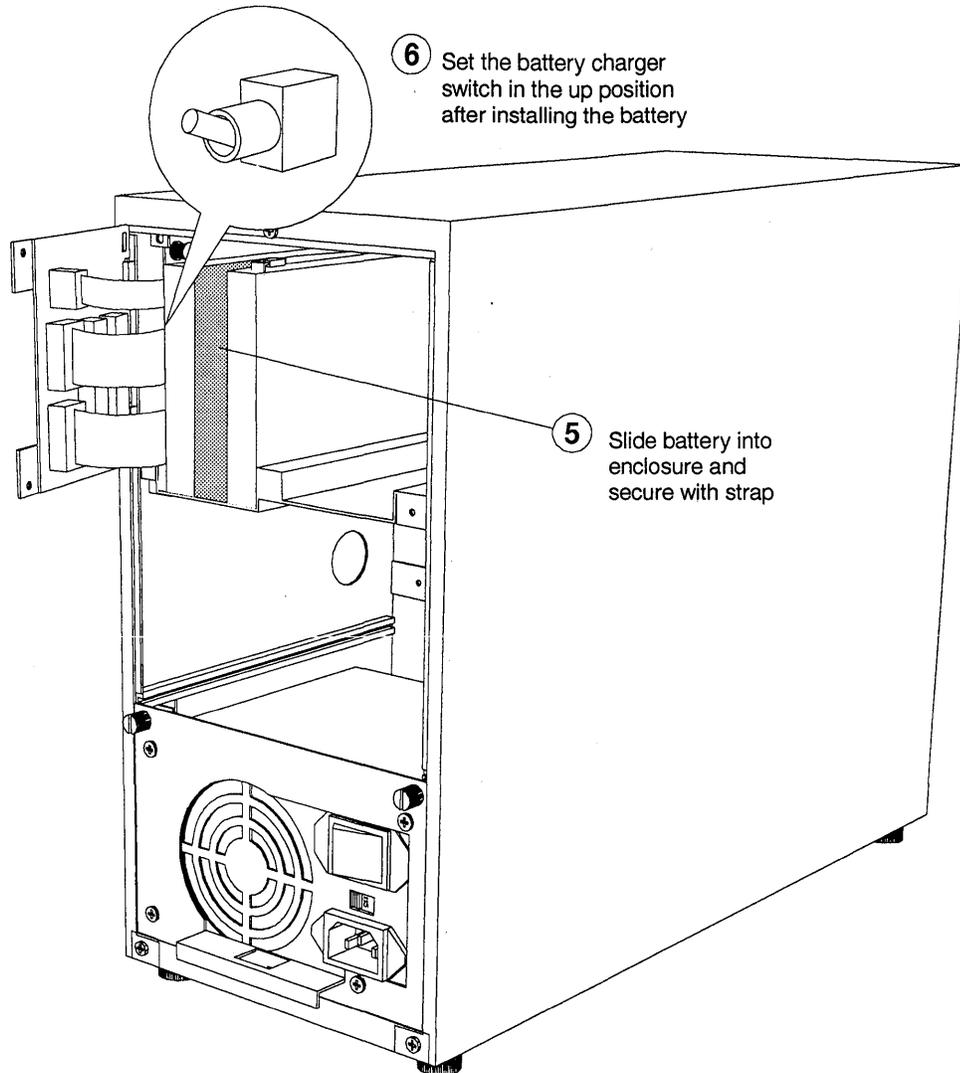

Figure 1-8: Securing the battery with the restraining strap
- 5 Slide the battery into the bay and secure with the hook-and-loop strap. As you slide the battery into the bay, hold the strap up, so it passes over the battery. Once the battery is inside, pass the strap through the holes provided in the battery bay floor. Insert the strap into the hole closest to the battery, and then bring the strap back up through the other hole. Tighten the strap and press the two sides together to fasten it. See Figure 1-8.
- 6 Flip the battery charger switch to the up (on) position. See Figure 1-8.